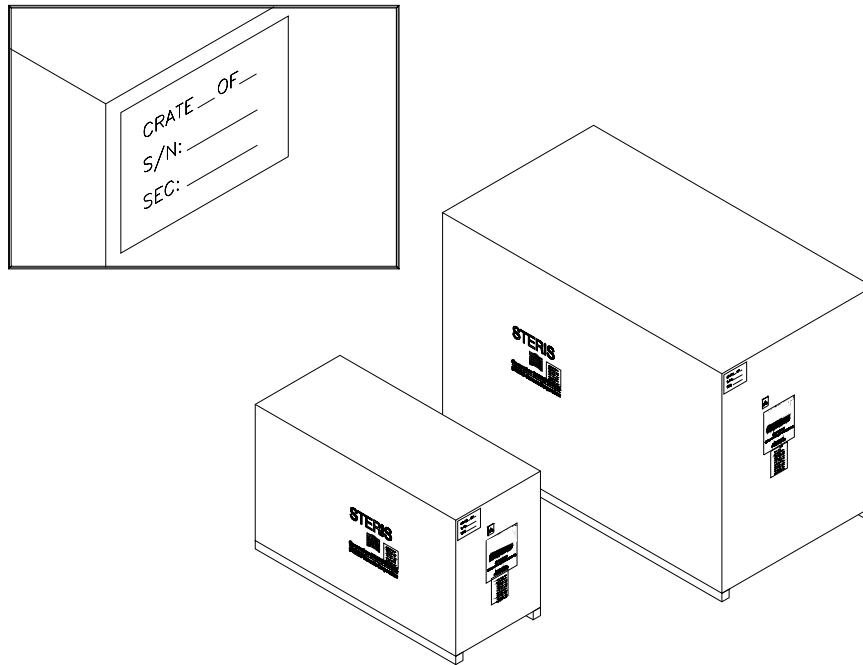

**Figure 2-1. Crates**
- 3) Verify each crate for identification sticker indicating crate number (see Figure 2-1).